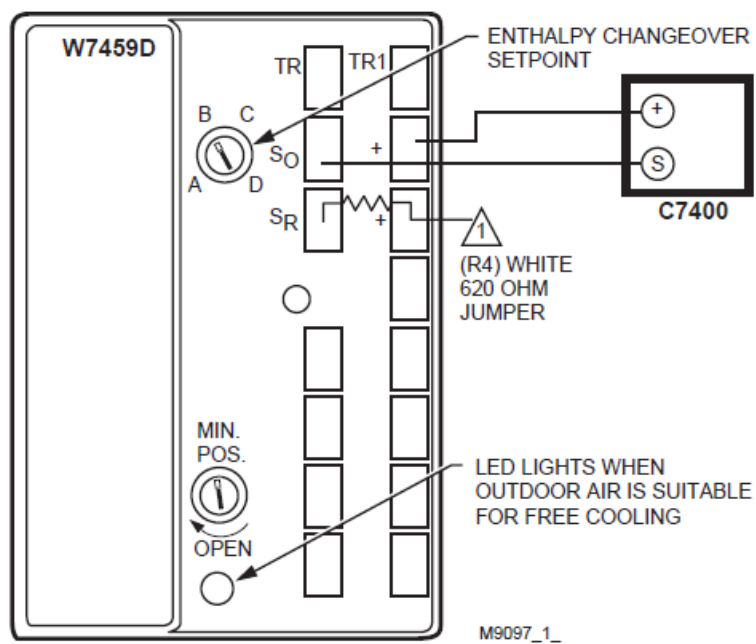

**Figure 2.**
2. Mount the second enthalpy sensor on the bottom side of the motor deck, see Figure 2.